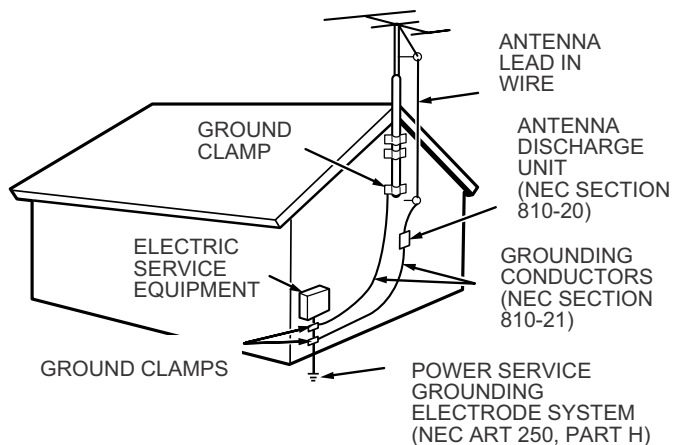

FIGURE 1
14. Outdoor Antenna Grounding – If an outside antenna or cable system is connected to the product, be sure the antenna or cable system is grounded so as to provide some protection against voltage surges and built-up static charges. Article 810 of the National Electrical Code, ANSI/NFPA 70, provides information with regard to proper grounding of the mast and supporting structure, grounding of the lead-in wire to an antenna discharge unit, size of grounding conductors, location of antenna-discharge unit, connection to grounding electrodes, and requirements for the grounding electrode. See Figure 1.